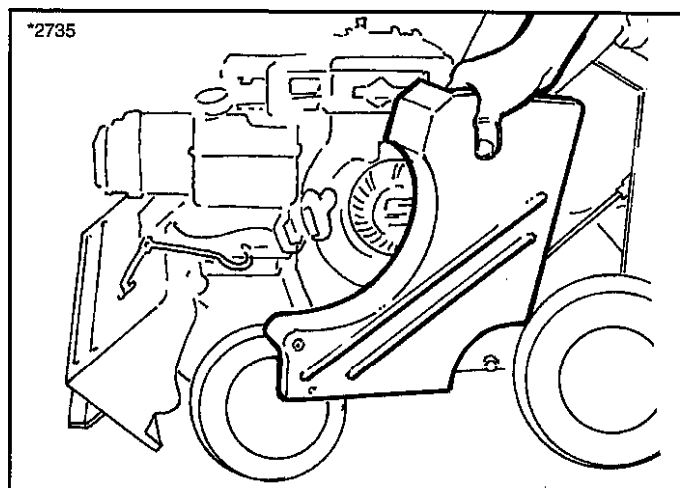

Figure 31. Remove Left Cover
6. Remove the panel fasteners from the rear panel (Figure 31).